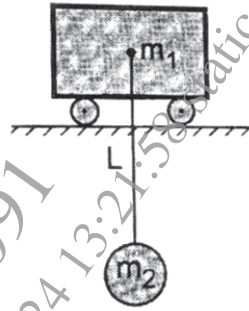

Figure. 2
- Q5) a) Find the natural frequency of the system shown in figure 2. [10]